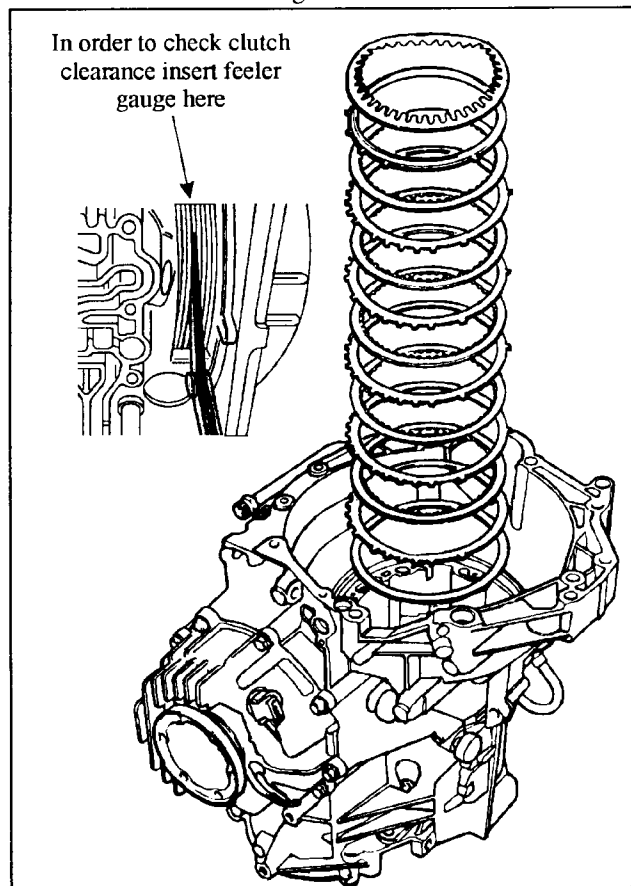

Figure 144
10. Install the B1 clutches into the transmission housing in the following order. Thick steel, steel plate, friction plate, steel plate, friction plate, steel plate, friction plate, steel plate, friction plate, steel plate, friction plate, pressure plate piston return spring (See Figure 144).
11. Set clutch clearance using a feeler gauge in the case between the frictions and steels of the B1 clutch as shown in Figure 144. Set clearance to approximately .008" to .010" per friction.